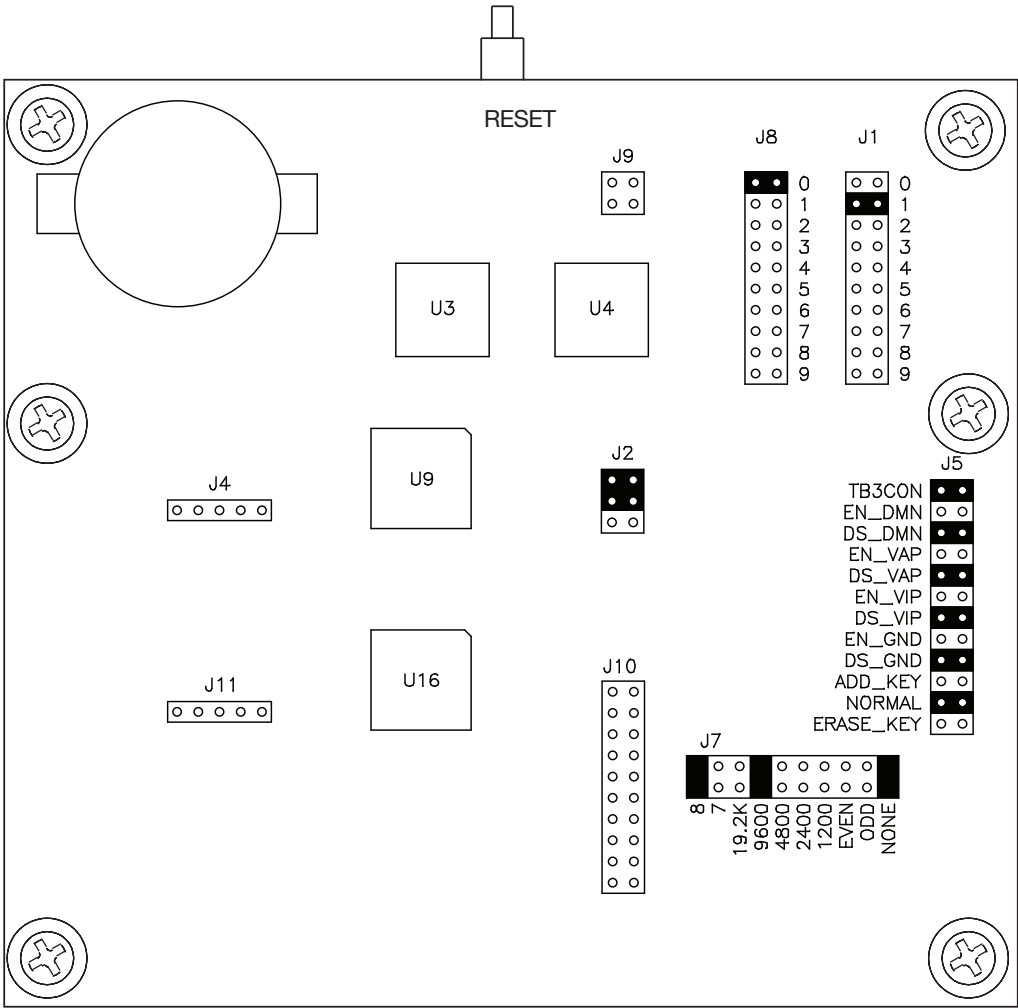

Figure 6: CPU Board Layout
2. Move the "NORMAL" jumper on J5 to the "Add Key S/N" position (refer to Figure 6: CPU Board Layout).
2. Move the "NORMAL" jumper J5 to the "ERASE_KEY" position (refer to Figure 6: CPU Board Layout).